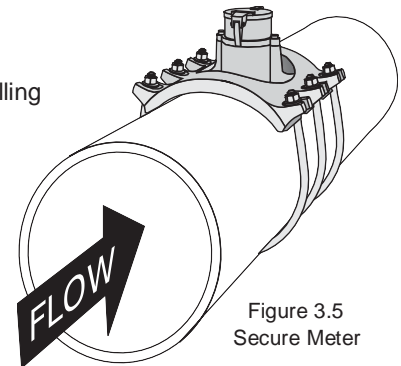

Figure 3.5
- d. Place gasket on the pipe. Put saddle in place. The arrow on the saddle should face in the direction of the flow. Bolt or strap on to the pipe securely (Figure 3.5).